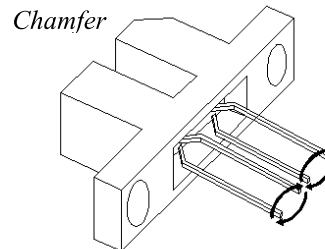

fig 9
8. If the optical sensor wire was not connected to the optical sensor, verify that the leads are twisted in the proper direction, as indicated in fig 9.